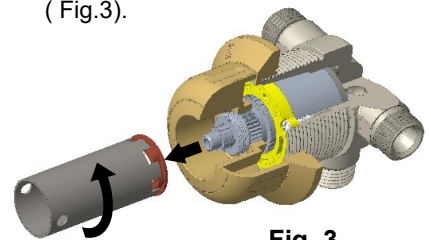

Fig .3
Step 3: Insert socket tool into faucet body to remove plastic nut and faucet handle (rotate counter clockwise) (Fig.3).